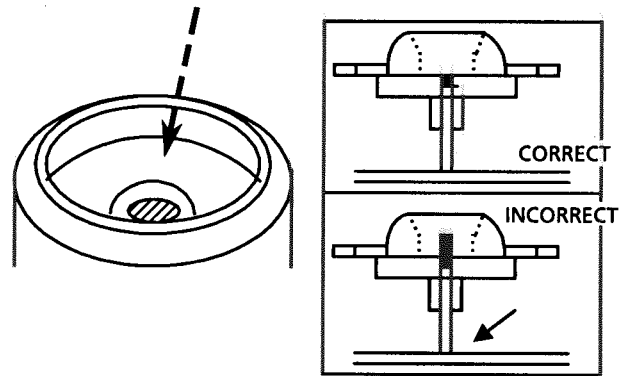

Fig 13
- (12) After inserting the turntable, bond the motor shaft and turntable together (at the section marked by an arrow in fig 13 on the left below).
- (13) Use "LOCKTITE" #460 bonding agent, and apply as little as possible. Take care not to allow any excess bonding agent to get onto the turntable. Be extremely careful not to allow bonding agent to adhere to the motor bearing (the section marked by an allow in fig 13 on the right).